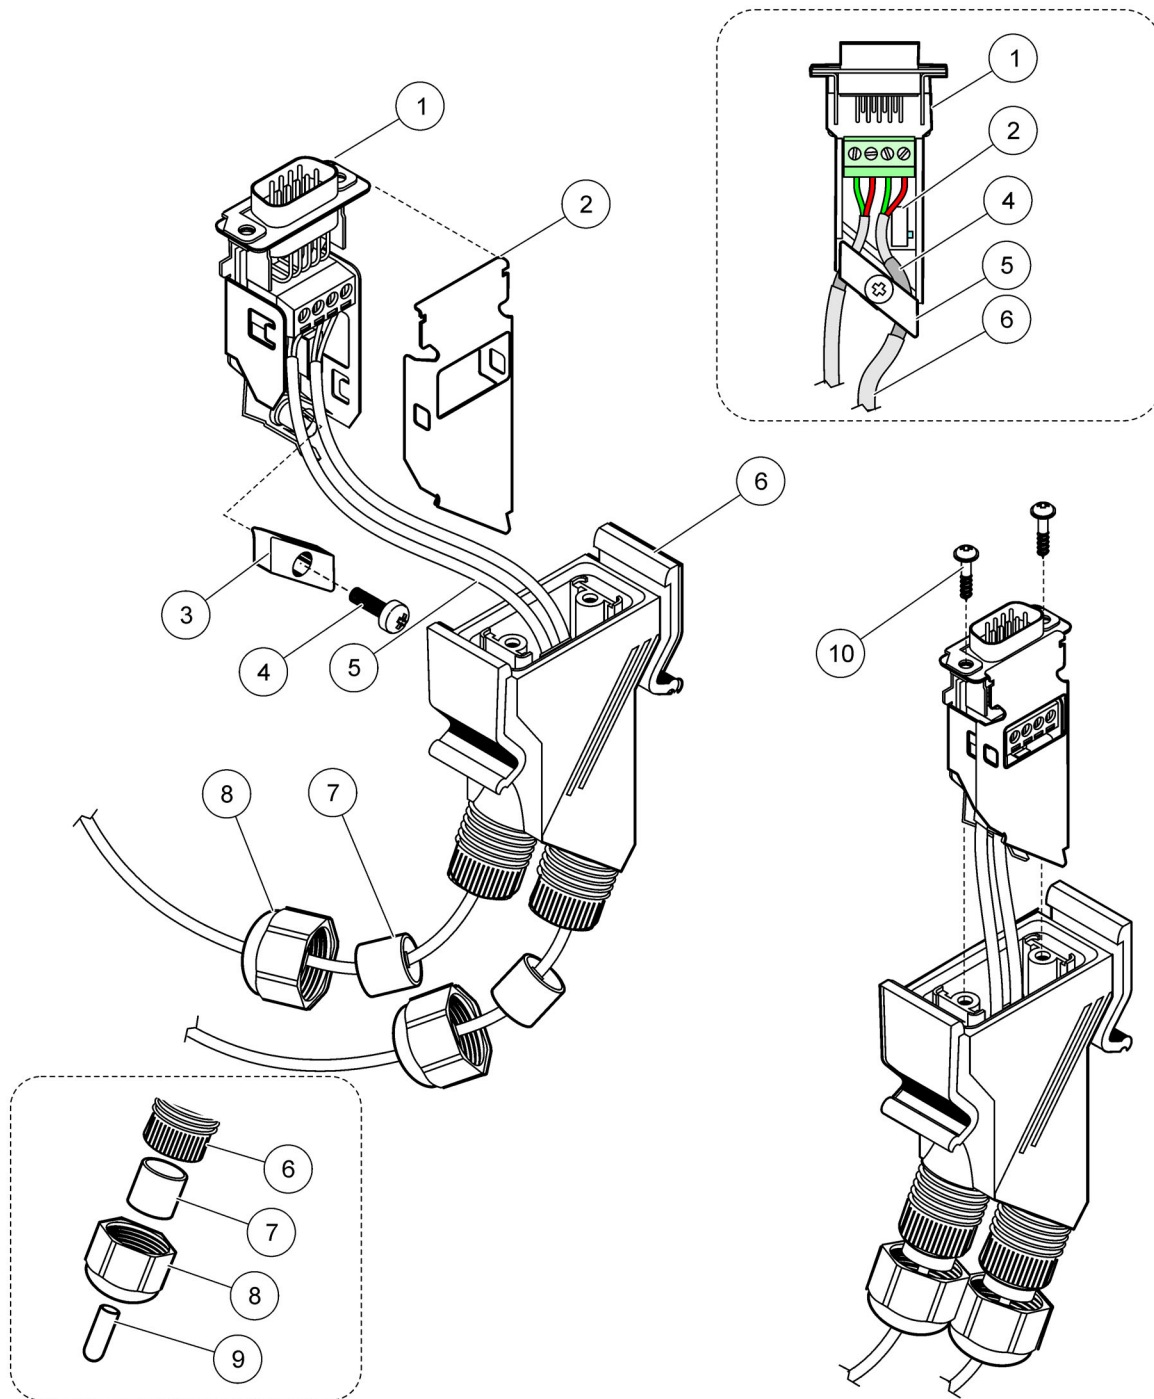

Figure 31 Connecting the network connector to the SC1000 network terminating resistor
2. Feed the cable through the union nut, rubber seal, and connector housing (Figure 31).
Note: When using the connector with the last module on the network segment, one union nut remains unused. Seal the union nut with the plug supplied. Refer to Figure 31.
² Use this plug if the cord grip is not used, refer to inset in Figure 31.